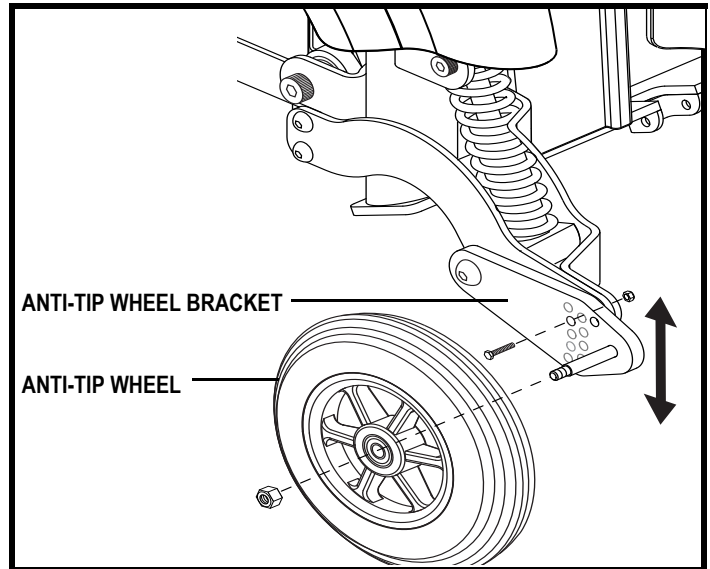

Figure 27. Anti-Tip Wheel Assembly
1. Remove the anti-tip wheel. See figure 27.